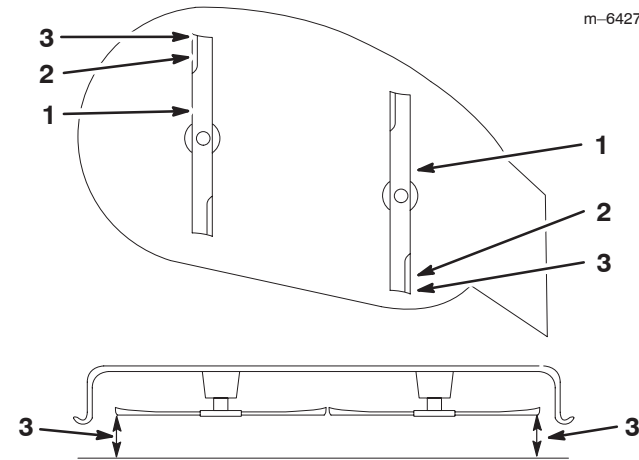

Figure 41
8. Set the height-of-cut at position 3 [3 inch (76 mm)] and carefully rotate the blades so they are facing front to rear (Fig. 41).
9. Measure from the tip of the front blade to the flat surface and the tip of the rear blade to the flat surface (Fig. 41). If the front blade tip is not 1/16–5/16 inch (1.6–7.9 mm) lower than the rear blade tip, adjust the front locknuts.